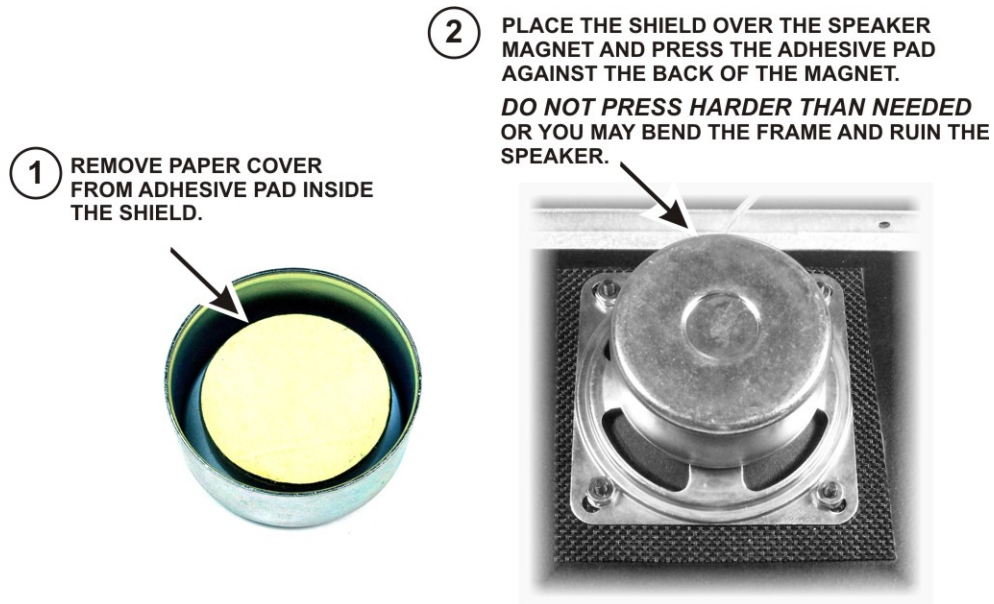

Figure 88. Installing Speaker Magnet Shield.
- Install the shield over the speaker magnet as shown in Figure 88.